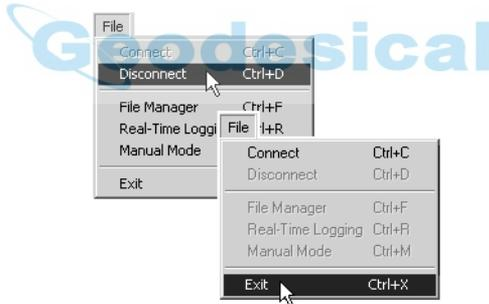

Figure 3-6. Click Disconnect then Exit
6. Click **File->Disconnect**, then **File->Exit** (Figure 3-6).